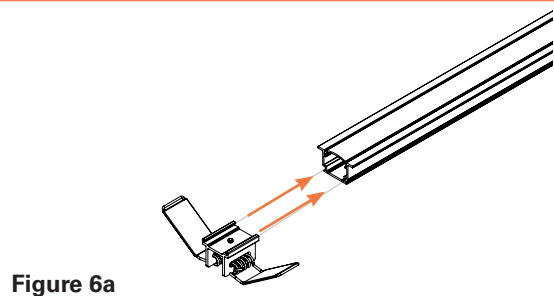

Figure 6a
- Slide Mounting Clips onto the Back Channel (Figure 6a)